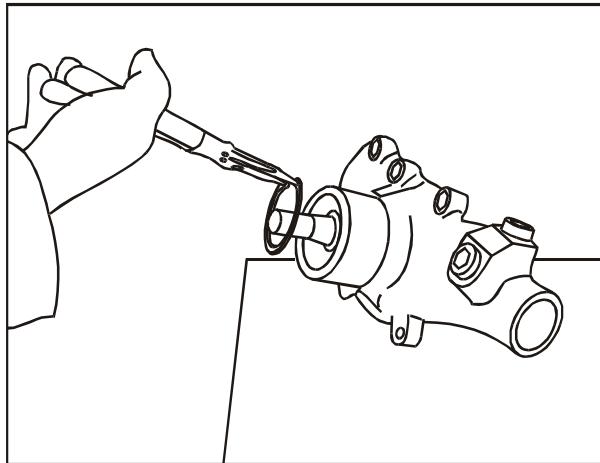

FIG 5
6. Remova o anel trava, **Fig. 5**